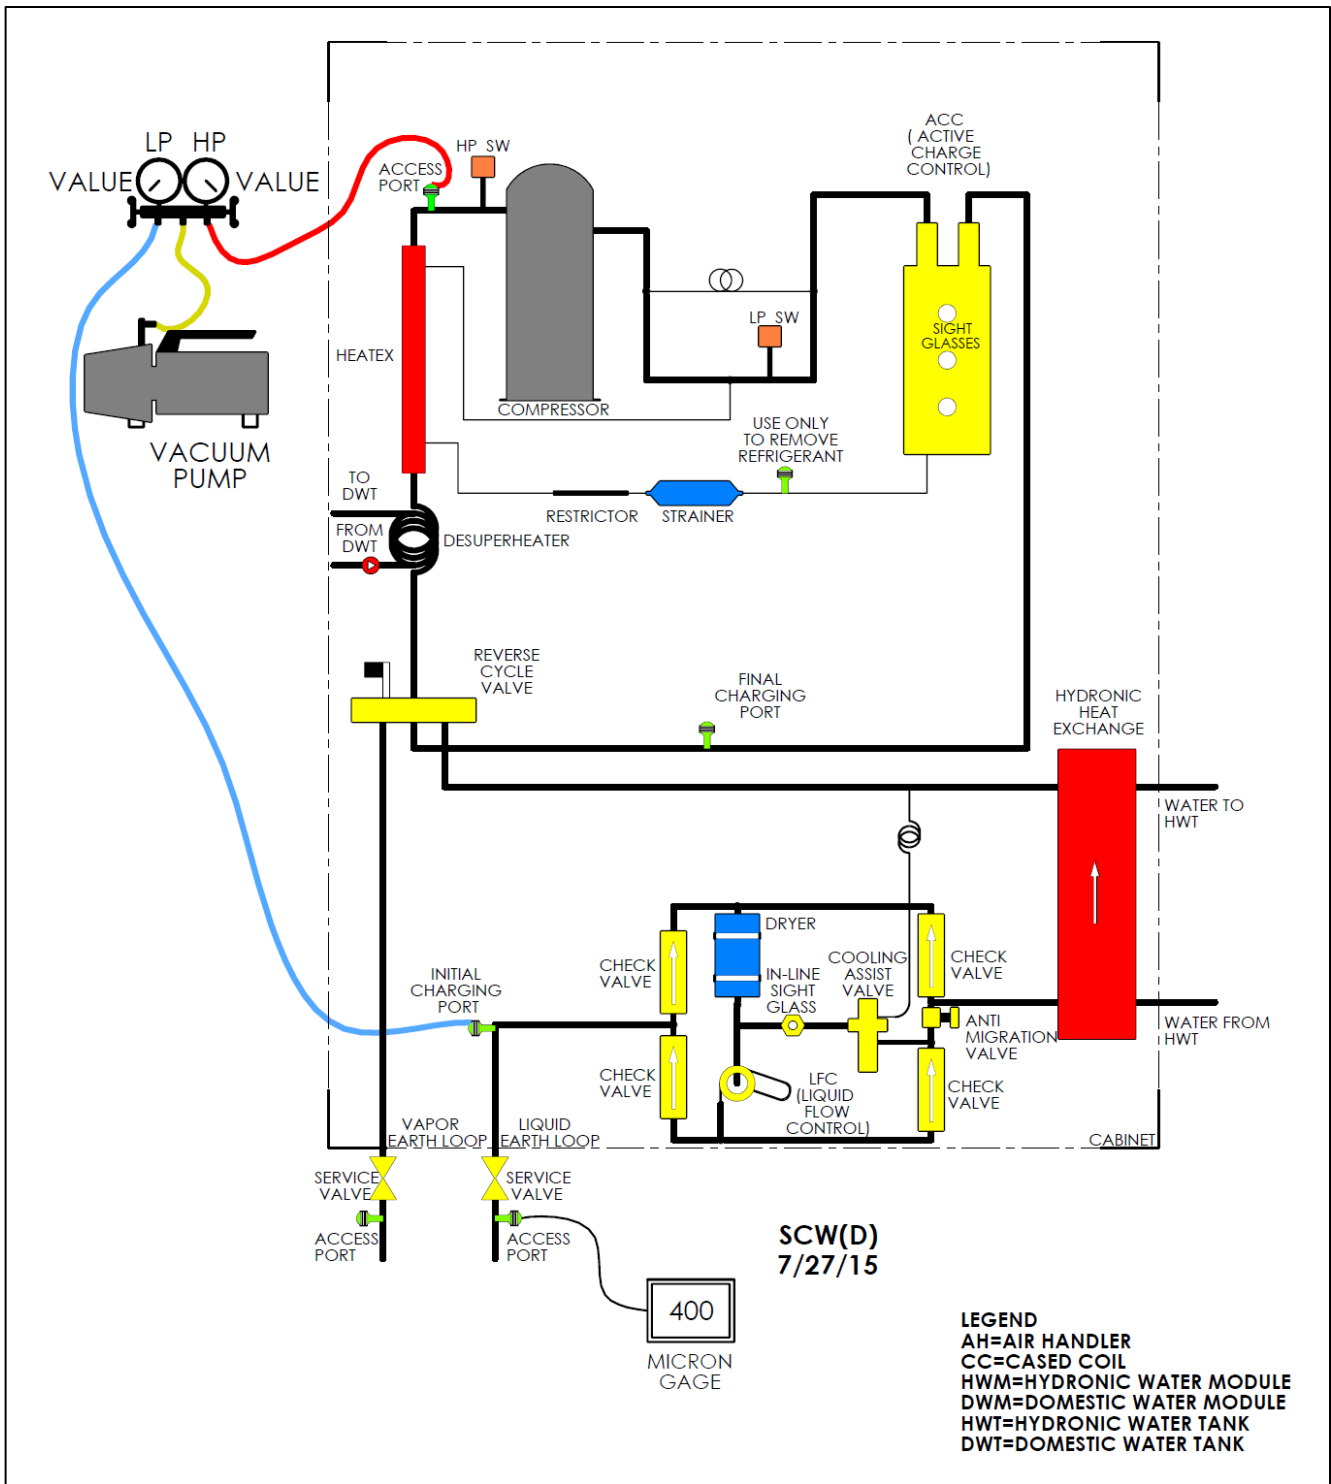

Figure 24. Evacuation of SCW(D) System
Refer to Figure 24 and the following procedure:
2. After venting the pressurized system, a good quality gage manifold and a non-permeable hose set as shown in Figure 24. If possible, use two Schrader core removal tools. Install one on the discharge line access port and the other on the initial charging port. Removal of the Schrader cores will reduce the time to achieve the desired vacuum.
3. Attached a good quality digital vacuum gage with an isolation valve to the liquid line service valve access port as shown in Figure 24.
5. Fully open the LP and HP valves and both service valves. Reference Figure 24.